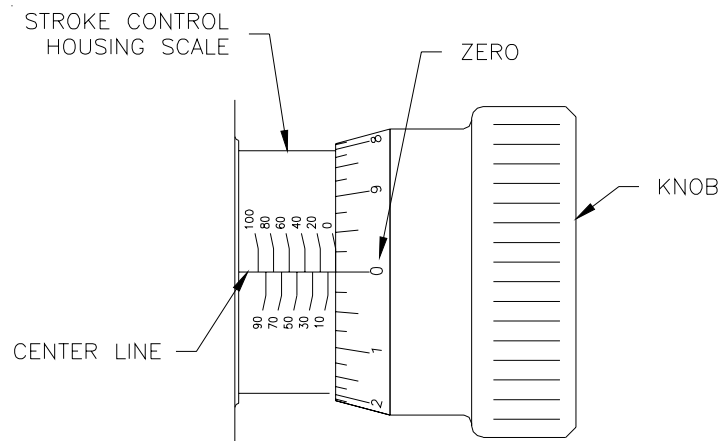

Figure 4-2. Stroke Control Alignment
- m. Position the knob (47) over the stroke control housing with the zero graduation on the knob lined up with the center line of the stroke control housing scale, as shown in Figure 4-2.
- o. Slide the knob, if necessary, to align the scales as shown in Figure 4-2. Tighten the three M6 set screws equally. Make sure the set screws that are used have a Nylok™ patch on the threads to prevent oil leakage.